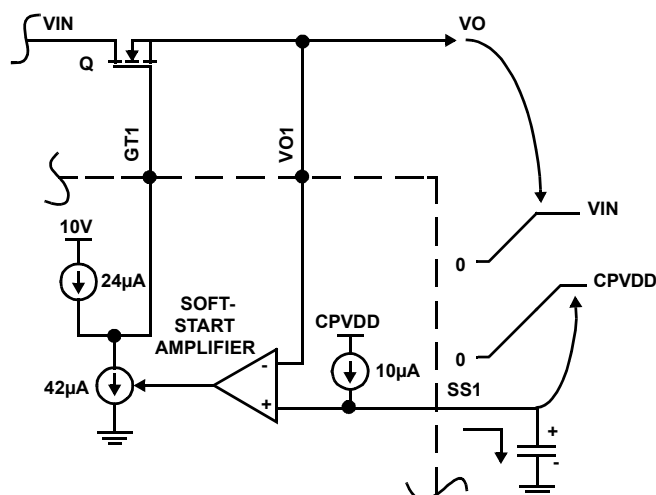

FIGURE 15. SOFT-START OPERATION
The output voltages are monitored through the Vo pins and slew up at a rate determined by the capacitors on the Soft-start (SS) pin, as illustrated in Figure 15. 24µA of gate charge current is available. The soft-start amplifier controls the output voltage by robbing some of the gate charge current thus slowing down the MOSFET enhancement. When the load voltage reaches its set level, as sensed by its respective UV pin through an external resistor divider, the Power Good ($\overline{\text{PG}}$) output goes active.
I_{INRUSH} is the sum of the DC steady-state load current and the load capacitance charging current. If the DC steady-state load remains disabled until after the soft-start period expires (PGX could be used as a load enable signal, for example), then only the capacitor charging current should be used as I_{INRUSH} . The C_{SS} value should always be more than (1/2.4) of that of C_{ISS} of the MOSFET to ensure proper soft-start operation. This is because the C_{ISS} is charged from 24 μ A current source, whereas the C_{SS} gets charged from a 10 μ A current source (Figure 15). In order to make sure both V_{SS} and V_O track during the soft-start, this condition is necessary.